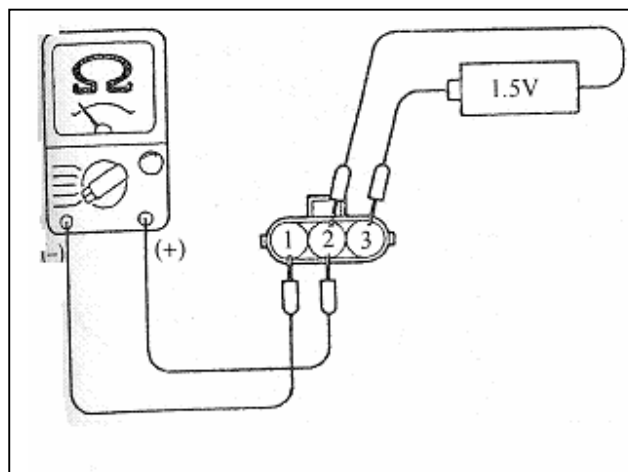

Fig. 9-51
2) Primary coil and power transistor continuity check(Fig.9-51)